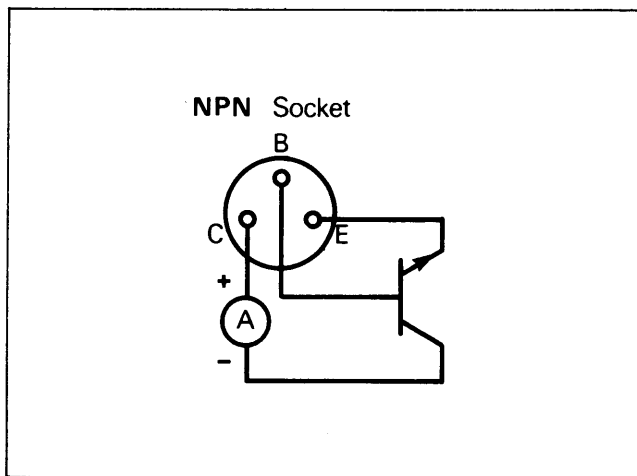

Fig. 12. Field calibration, f_r circuit.
- (b) Insert NPN Transistor into front panel transistor socket labeled NPN (16).
- (c) Place current meter in series with the collector lead. (See Fig. 12.)